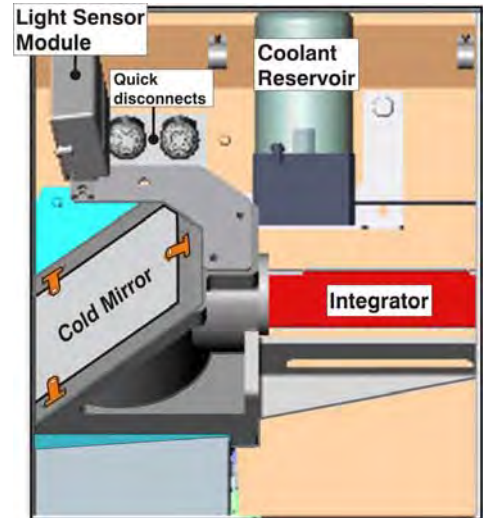

Figure 5-25 Compartment
4. From the other two tabs, *loosen* one 2.5mm screw from each and *remove* one 2.5mm screw from each. This allows the tabs to be swung out of the way without fully removing them. (**Figure 5-25 Compartment, on page 5-19**)